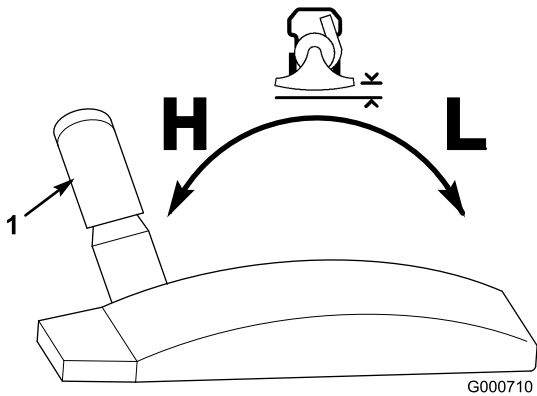

Figure 17
3. Move the height adjustment control forward to lower the intake housing; move it to the rear to raise the housing (Figure 17).